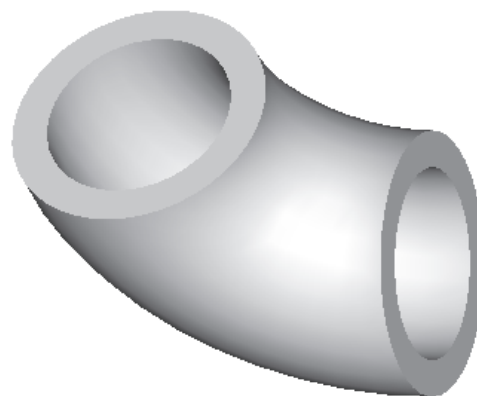

Figure 7-38 Shell feature without datum planes
- The second feature is a shell of given thickness. Both the end surfaces of the sweep feature will be removed during shelling, see Figure 7-38.
The default trimetric view of the shell feature is shown in Figure 7-38. You can use the CTRL+middle mouse button to change the orientation of the model.